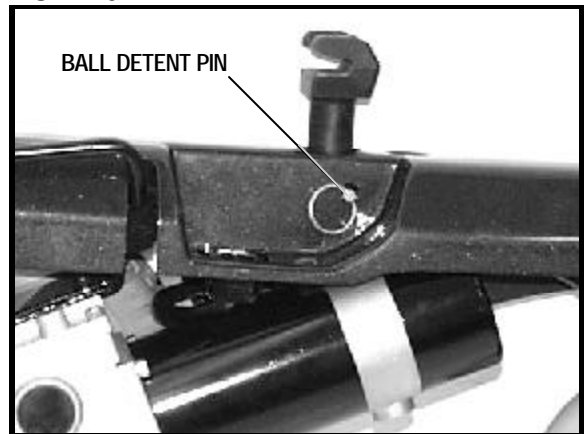

Figure 19. Seat Height Adjustment
2. Remove the ball detent pin from each seat post. See figure 19.